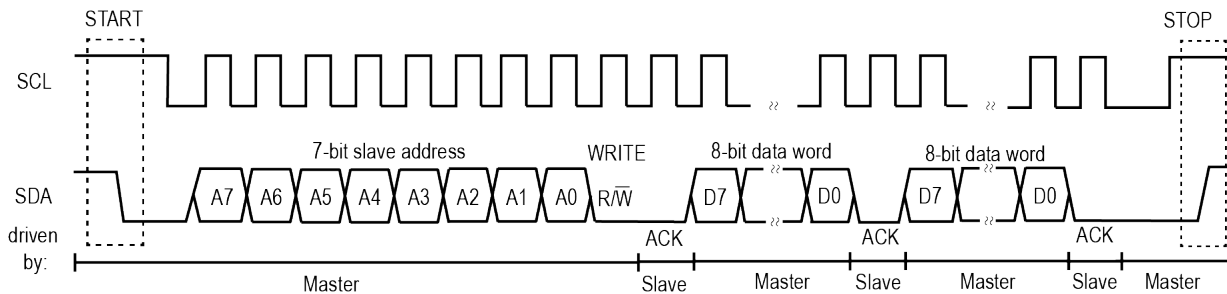

Figure 2-12 I²C Master Writing Two Bytes(7-bit Address)
6. If the command was a **WRITE**, as shown in **Figure 2-12**, the master serially transmits 8-bit data words to the slave. Each byte is acknowledged by the slave.